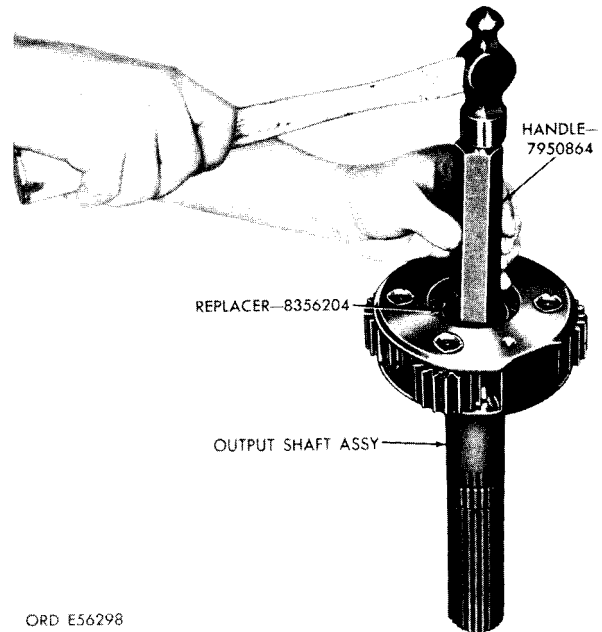

Figure 5-79. Installing bushing into transmission output shaft using handle 5120-316-9182 (7950864) and replacer 5120-759-5415 (8356204).
outlined in paragraph 5-58, steps 14 through 16 (fig. 5-96 through 5-98). No overhaul (rebuild) of such components is required or recommended. If bushing (44), was removed, install new bushing using replacer 5120-759-5415 and handle 5120-316-9182. Drive until replacer bottoms against output shaft (fig. 5-79).